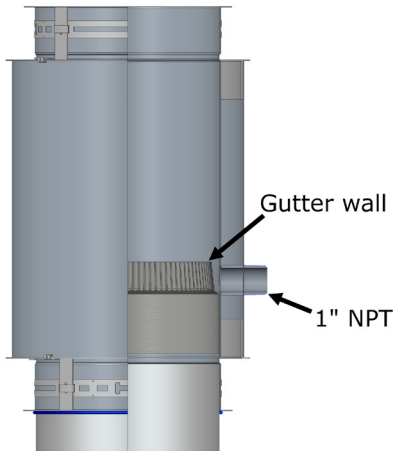

Figure 29- Vertical Drain Length
A Drain Section is used to drain water on vertical installation. It is a special variation of an 18" pipe length with provision to drain rain or condensate from the chimney. The pipe flue is equipped with an annular gutter wall and a 1" (25) NPT nipple extending through the casing for attachment of drain piping. See **Figure 29** for details. The drain piping should include a water leg of a height at least equal to the maximum expected operating pressure at the appliance outlet to avoid allowing flue gases to vent through the drain. Drain Length should be installed indoors to prevent freezing.